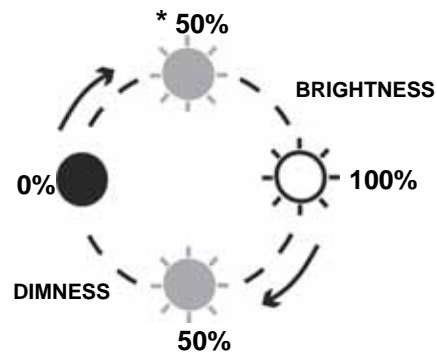

Fig. 2
- To adjust brightness/dimness level, press the On/Off/Dim button on the module to turn on the lighting device. The default setting of brightness is 50% (refer to the asterisk as shown in Fig 2). Press and hold the On/Off/Dim button to start brightness adjustment. The brightness level will go up, and when it goes up to the maximum value (100%), it will start adjusting dimness. Choose the ideal level you desire and release the On/Off/Dim button simultaneously. The brightness/dimness level is now fixed as you wish.